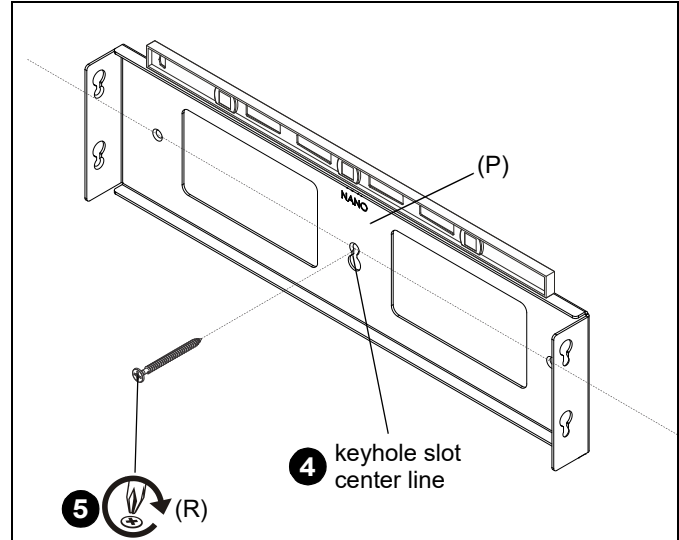

Figure 3
3. Using a level, mark a horizontal line across width of LED wall from the mark made in Step 2. (See Figure 3)
4. Hold spacer plate (P) up to wall, lining up keyhole slot with line drawn in Step 2. (See Figure 3)
5. Use #8 x 2" Phillips drywall screw (R) to secure spacer plate (P) to wall. Use a level to make sure spacer is level before tightening screw. (See Figure 3)